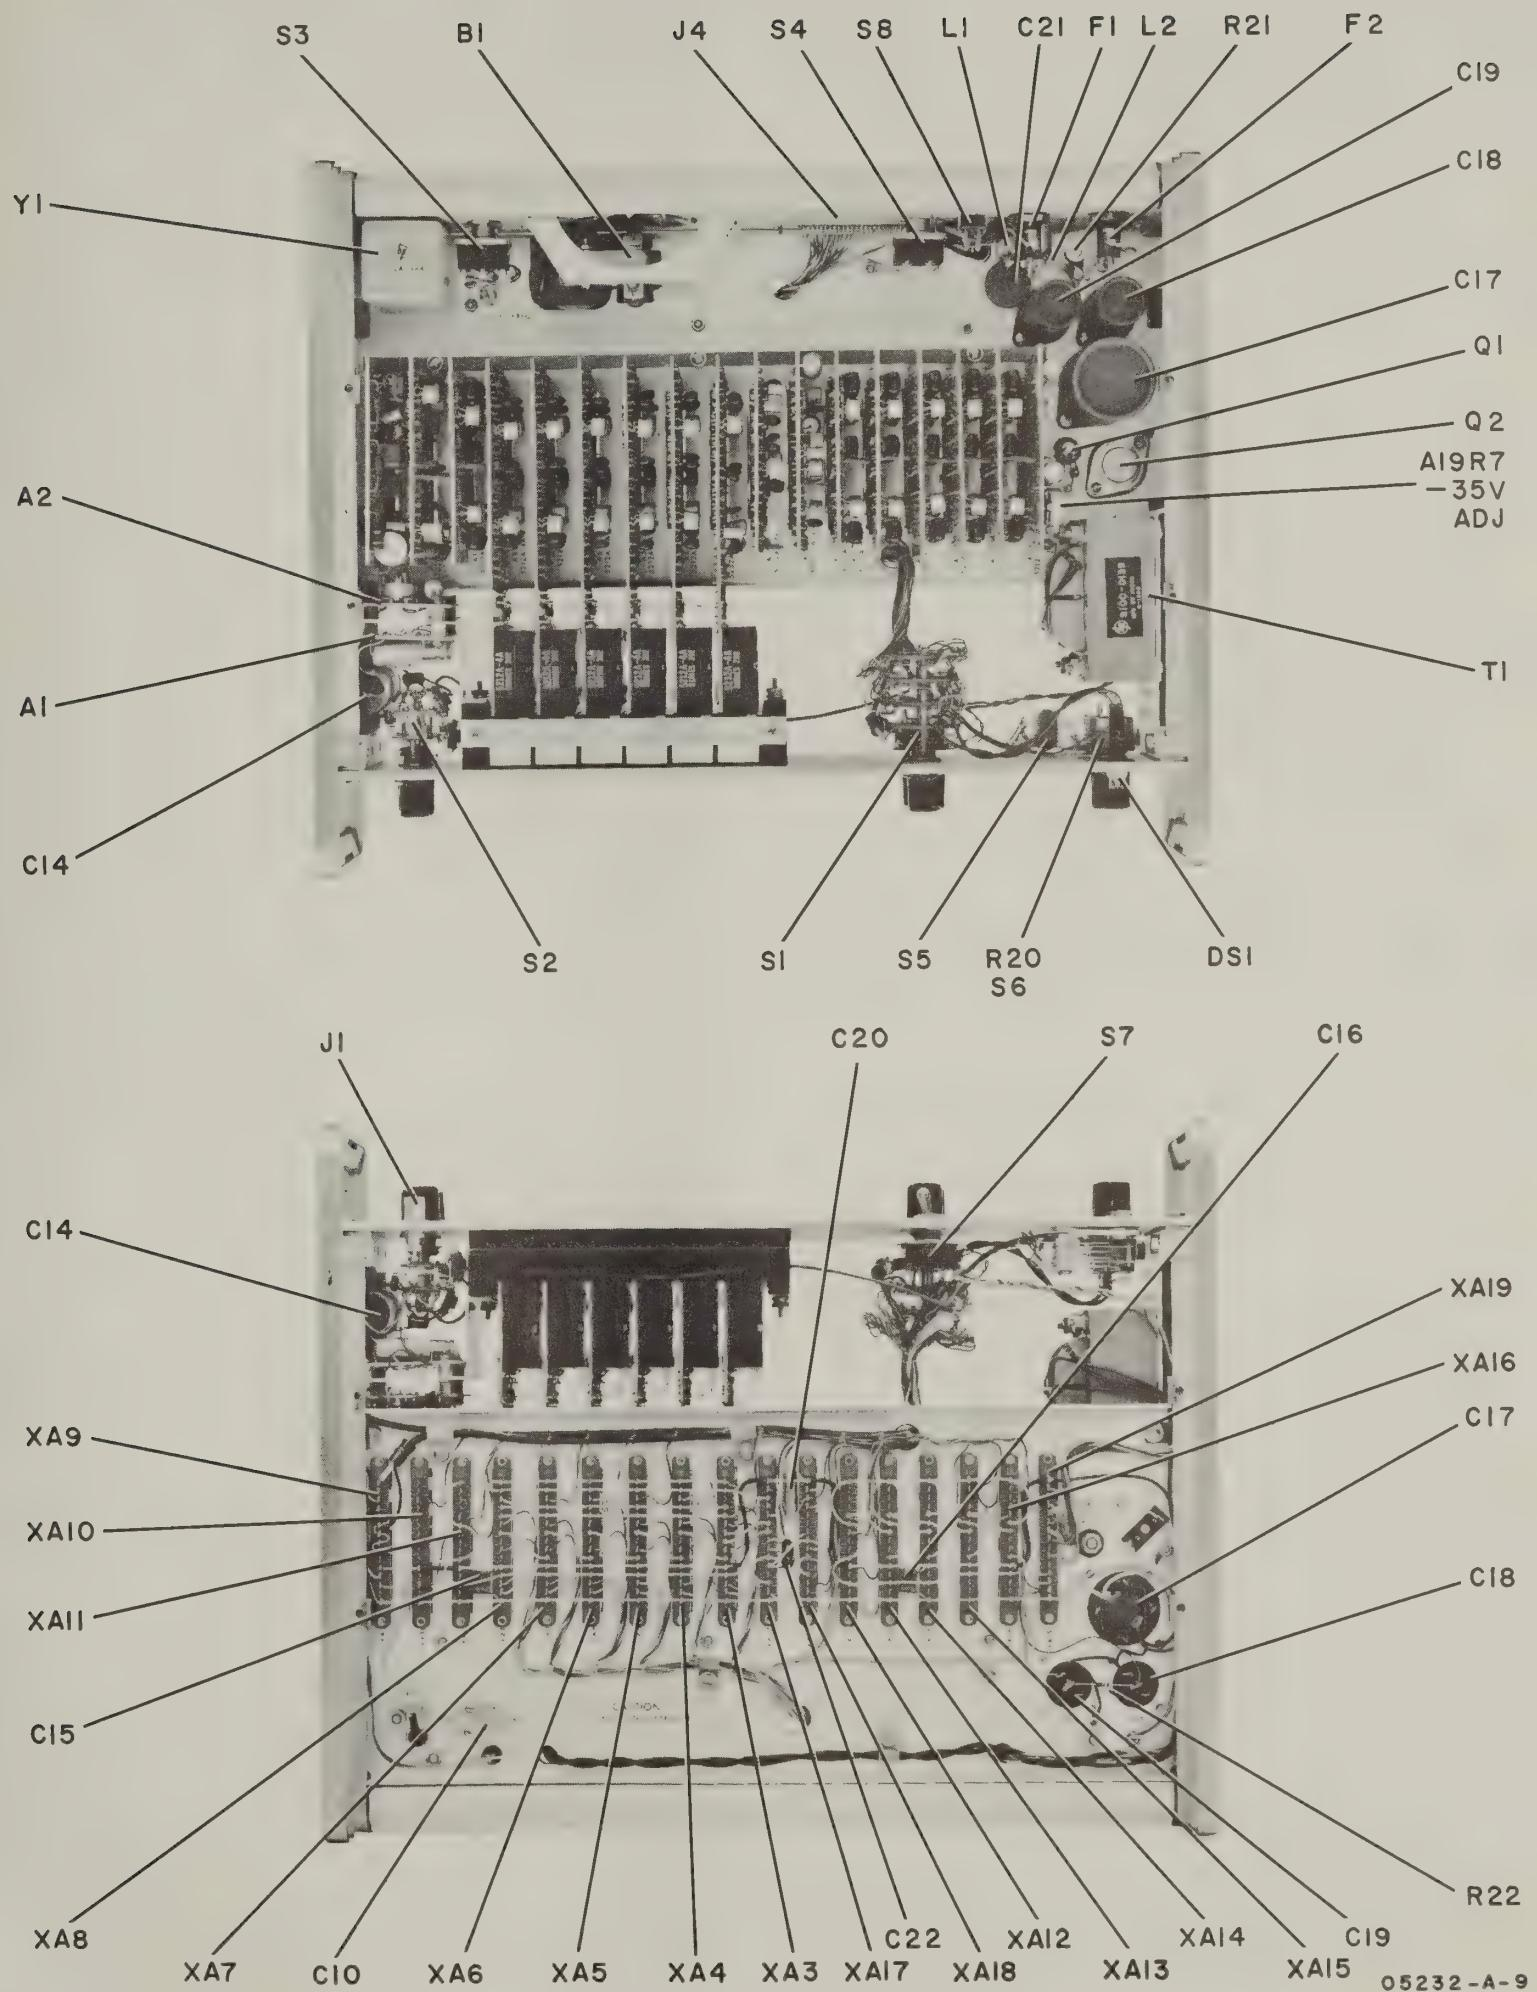

Figure 5-1. 5232A Component Location
c. Voltmeter should read -35 vdc ± 1 vdc. If voltage is outside of this range, adjust A19R7 (-35 volt adjust; see figure 5-1 or 5-2) to obtain -35 vdc.
b. Turn A2R2 (trigger level adjust; see figure 5-1 or 5-2) fully clockwise.
- g. Using a plastic tool, adjust C10, OSC FREQ (oscillator frequency adjustment; see figure 5-1 or 5-2), to stop any horizontal drift of the oscilloscope display. Drift of display in cm/sec is difference between standard frequency and the time-base oscillator frequency in parts in 10^6 .